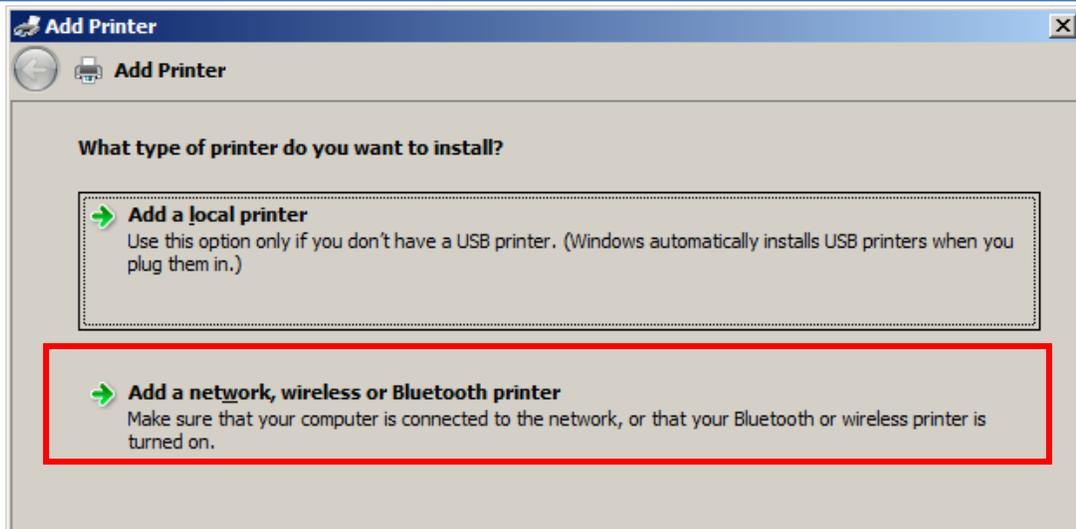

Figure 10-29 - Adding a Network Printer
- 6) When the add a printer dialogue box pop up select “**Add a network, wireless or Bluetooth printer**”. (Figure 10-29).